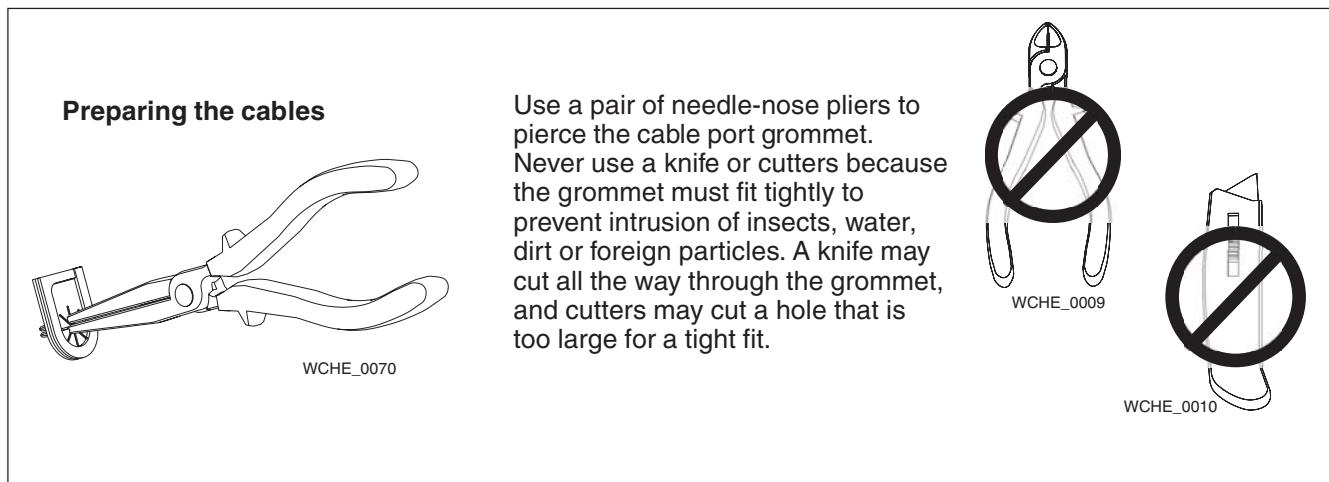

Fig. 9
6.1 Pierce the grommet in the top or bottom of the cabinet as shown in Fig. 9 and thread the cable through the hole.